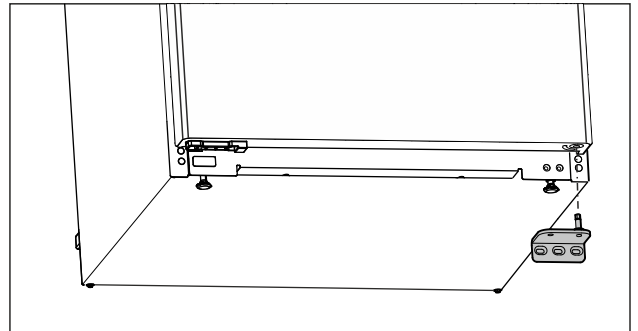

Fig. 15
- ▶ Remove the swap bearing block downwards. (see Fig. 15)